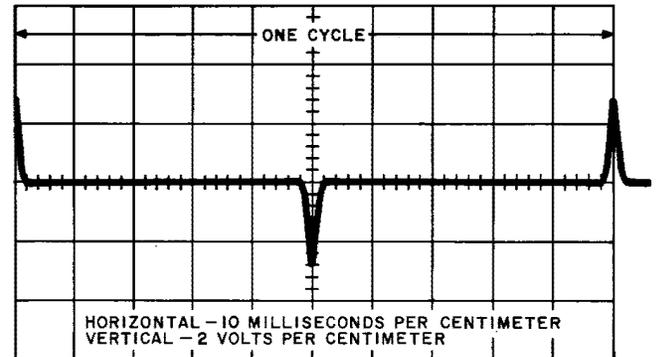

Fig. 1—Reluctance Pickup—9.5- to 10.5-Hz Output
**2.03 20-Cycle Detector (CP9):** The 20CD, EL22 furnishes a "1" signal pulse at TP1 (terminal 14) when the pulsed signal at the input to the PS, EL23 (pins g and x of P1) reaches or exceeds a repetition rate of  $10$  Hz (see Fig. 1 and 2). This signal input consists of a series of positive and negative pulses which are approximately  $2.5$  volts in amplitude and approximately  $1$  millisecond in pulse width. The  $10 \pm .5$  Hz repetition rate of this input signal corresponds to an engine speed of  $600 \pm 30$  rpm.